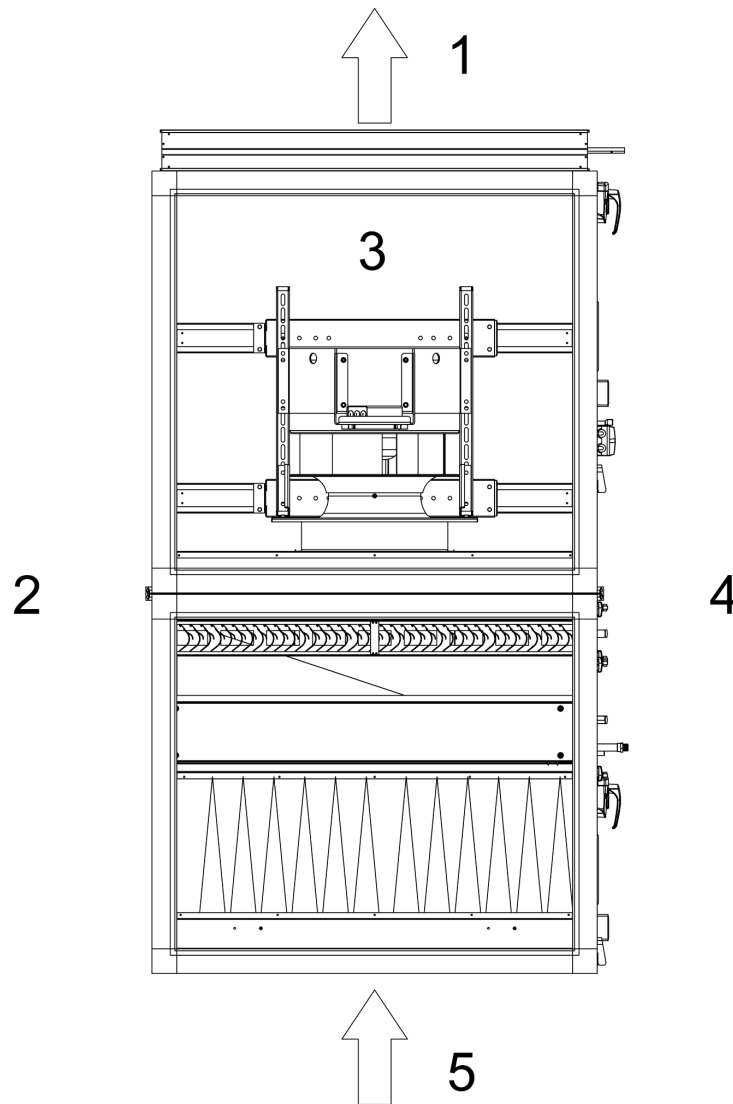

Figure 9.4.2.1 - Maintenance side of the unit.
1. Maintenance side is identified looking down from AHU's upside according the main air flow direction (Figure 9.4.2.1). The main air flow for the supply and heat recovery air handling units is a supply air flow and the main air flow for the exhaust air handling units is an exhaust air flow. For AHU with heat recovery coil the maintenance side is identified separately for supply and exhaust modules.